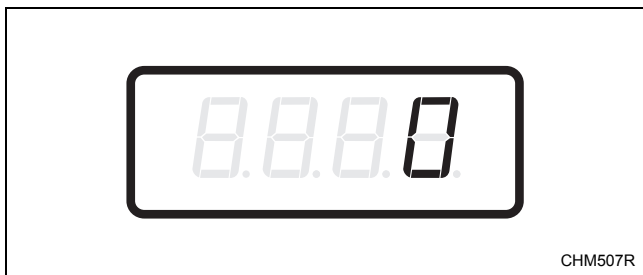

Figure 4
4. When “dEn1” appears in the display, press the START (enter) keypad. There are five digits in the Coin #1 Value. The fifth digit will appear in the display and will flash one second on, one second off. Refer to *Figure 4*.